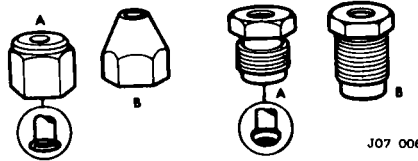

Fig. 6
**NOTE:** In Figs 6 to 9, A indicates the metric type and 'B' the U.N.F. type.
The metric female nut is **always** used with a trumpet flared pipe and the metric male nut is **always** used with a convex flared pipe (Fig. 6).